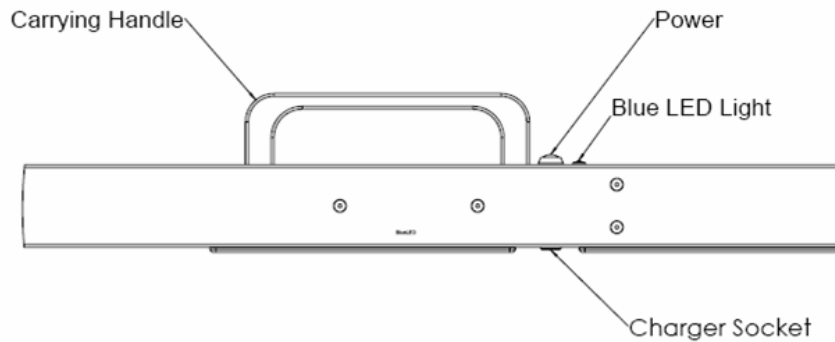

Figure 1
3. Ensure that the gauge is powered by depressing the ‘Power Button’ See *Figure 1* – The blue light on the top of the DLSG should now be lit.